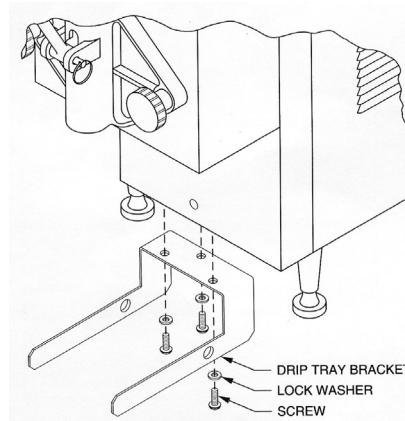

Fig. 2
1. Remove the three (3) phillips head screws and three (3) lock washers from the parts packet.
2. Align the drip tray bracket with the three weld nuts on the bottom of the dispense head base (Fig 2).
UNDER NO CIRCUMSTANCES SHOULD THE UNIT BE OPERATED WITH THE FREEZE AND DASHER SWITCH (Fig. 2) ON FOR MORE THAN THREE MINUTES WITH EMPTY FREEZING CYLINDERS . DOING SO WILL RESULT IN DAMAGE TO THE MACHINE.